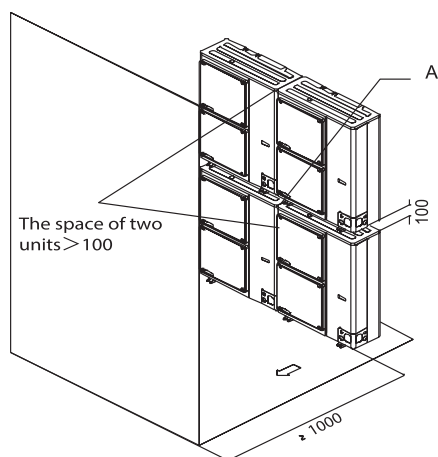

Figure 19
- An obstacle exists at the air exhaust side (see Figure 19)